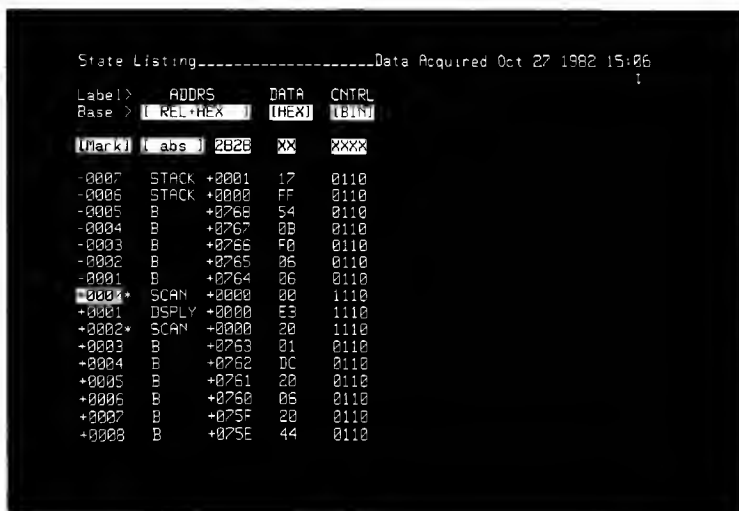

Figure 3-21. Trace List Using Values From Relocation Menu
2. Move the cursor into the [HEX] field under the ADDR5 label, if not already there, and press the NEXT[] key two times. The field will change to [REL+HEX], and the column of information will show module names with offset values. The module names will correspond to the addresses you set up before the trace. The offsets will show how far each measured transaction was into the particular object code module. See figure 3-21.